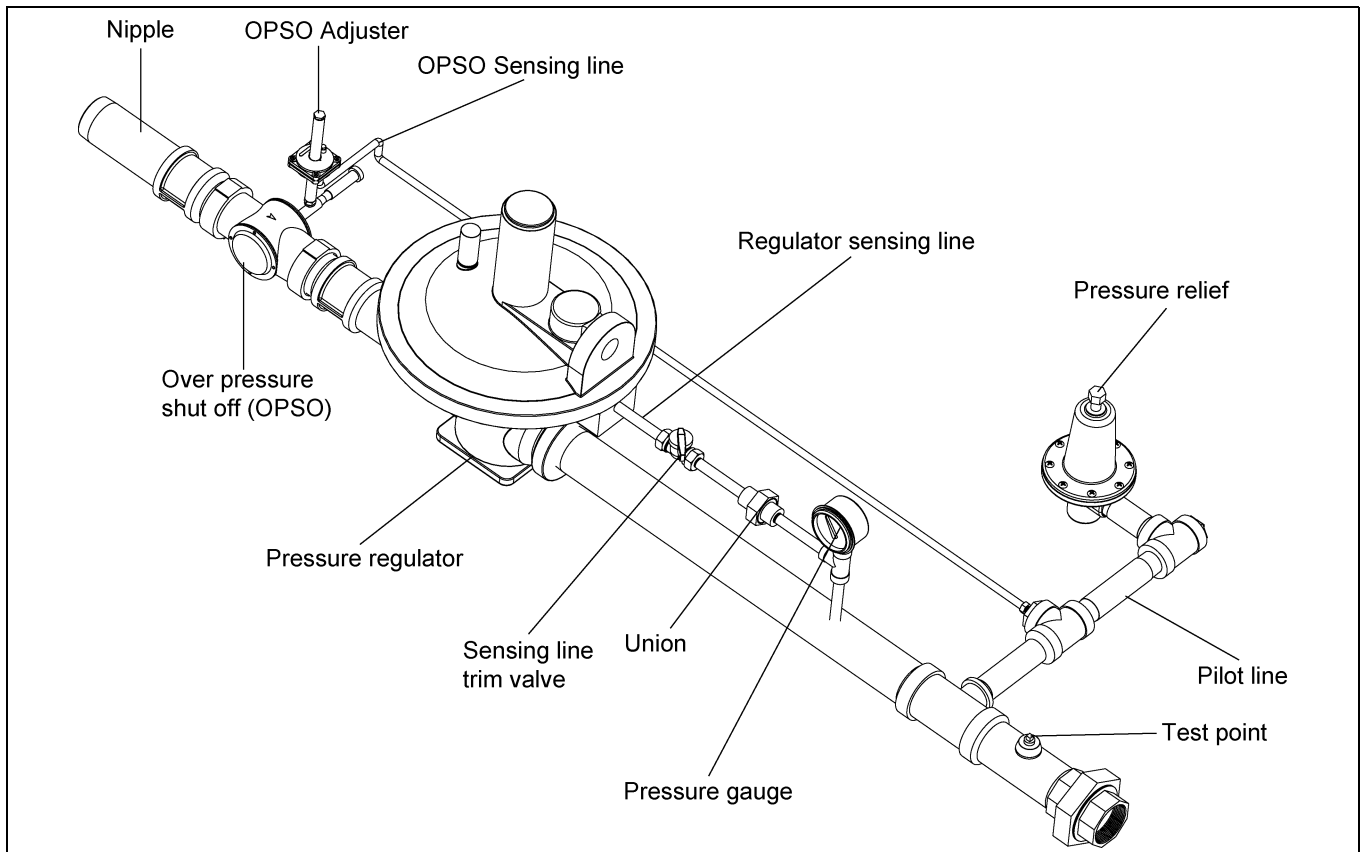

Figure 3C
2. Pressure after regulator read at sensing line gauge. (See Figure 3C on Page 16.)
4. Relief valve. (See Figure 3C on Page 16.)
5. OPSO valve. (See Figure 3C on Page 16.)